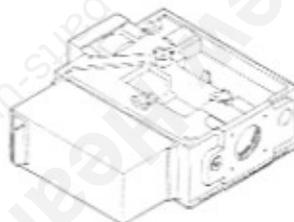

Figure 42
Step 5. Electronic Appliances – Remove ten (10) screws and remove the complete spud assembly.
Step 6. Electronic Appliances – Mark the wires to the gas valve. Then remove and replace the gas valve (Figure 42).